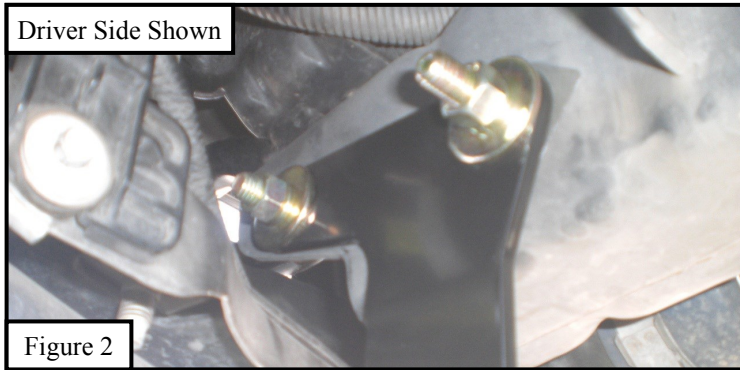

Figure 2
- Take the drivers side mounting bracket and attach it to the previously installed stud plate using (1) M12 flat washer, (1) M12 lock washer, and (1) M12 hex nut. Attach the front mounting point using (1) M12 hex head bolt, (2) M12 flat washers, (1) M12 lock washer and (1) M12 hex nut ( **Figure 2**). Do not fully tighten at this time. Repeat this step for passenger side.